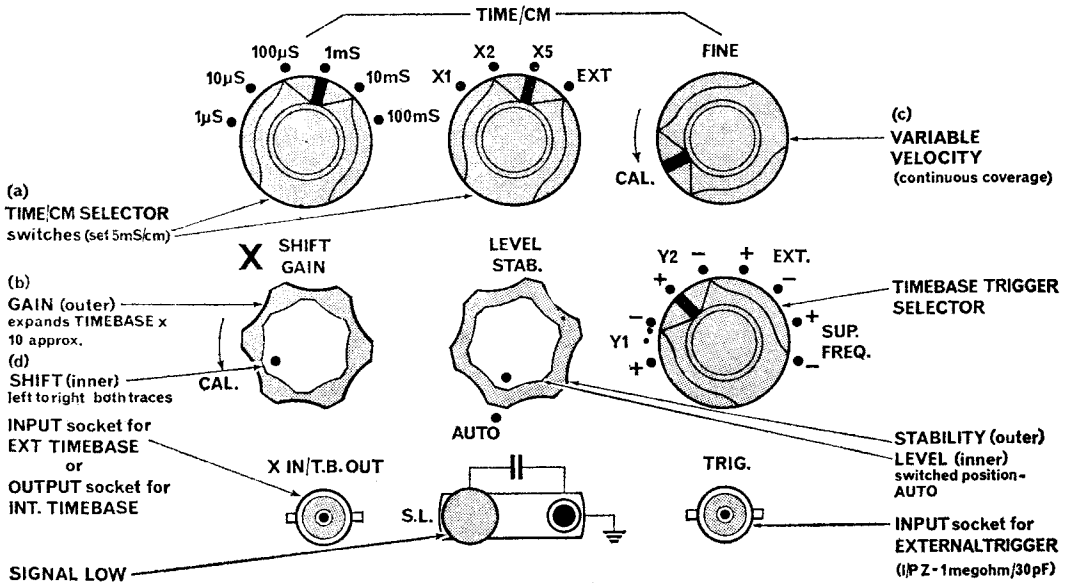

Fig. 4. Timebase controls CT436
6. Horizontal (timebase) controls. On most general purpose oscilloscopes the same timebase is applied to both traces, thus enabling two separate waveforms to be directly compared for timing. Therefore, one set of timing controls will set the time/cm. for both traces. The timing selectors shown in figure 4 are for the CT436 and are typical of most general purpose instruments. More complex oscilloscopes, used for many radar applications, have two independent timebases which may be run at different speeds if required.
a. Time/cm. selector switches. Two switches are used, the basic time selector and a 1 : 2 : 5 multiplier. In figure 4 they are shown in the 1mS × 5 = 5mS/cm. position. These switches provide 18 calibrated ranges from 1 µS/cm to 500mS/cm, but the calibration is correct only when the 'fine' velocity and the X gain controls are in the CAL positions. The multiplier switch has a position marked EXT which switches off the internal timebase generator and allows an external timebase to be fed in to the X IN socket to control both traces. In all other positions the internal timebase may be taken out of this socket and used to drive other test equipment, such as wobblers, if required.
9. Triggering controls—CT436. The three controls used on the CT436 are shown in figure 4, together with the socket used for applying an external triggering signal. The external trigger should be used whenever possible as it enables many related waveforms to be observed without altering the trigger controls and also eliminates any possible confusion over which signal is acting as the trigger source for both traces.
10. Signal low terminal. When it is required to examine a signal relative to a potential other than earth, the signal low terminal is used as the low impedance, or 'earthy' side of the input connection. This terminal is on the timebase panel (Fig 4) and is normally linked to the chassis terminal (earth) by a metal strap, the insulated terminal being the one used as the signal low. Both the signal input and the signal low terminals may have a potential difference *not exceeding 500V peak* with respect to the chassis when the signal is applied. This method is most often used for examining small signal levels across transformer windings, particularly when these transformers are in the anode circuits of valve amplifier stages.